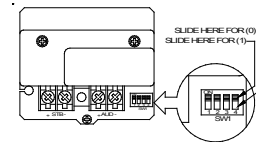
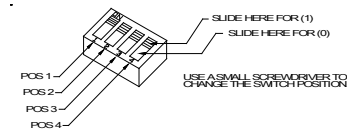

Figure 3: PC Board Layout Showing Location Switch (SW1)
Figure 4: Switch Settings
The Switch (SW1) of the Multitone Appliance, shown in Figure 3, is used to set the dBA sound output level and alarm tone. The factory settings are shown below. Read these instructions carefully before changing any of these factory settings.
STEP 1: Set the desired dBA sound output level as follows (Refer to Table 5). Multitone Strobe Appliances cannot be field set for input voltage. Multitone Strobe Appliances are field set for dBA sound output level by adjusting a four position Switch (SW1) as shown in Table 5 and Figure 3. Use SW1 Position 1 to select the dBA sound output level.
STEP 2: Set desired alarm tone as follows (refer to Figure 3 and Table 6). Multitone Strobe Appliances are field set for any one of eight alarm tones by setting a four-position switch (SW1) as shown in Figure 4 and Table 6. Use SW1 POS 2, 3, 4 to select the desired alarm tone.